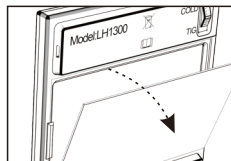

Fig. 3
- Remove the inner lens cover by pulling up from the central part Place a new inner lens cover. (See Fig. 3)